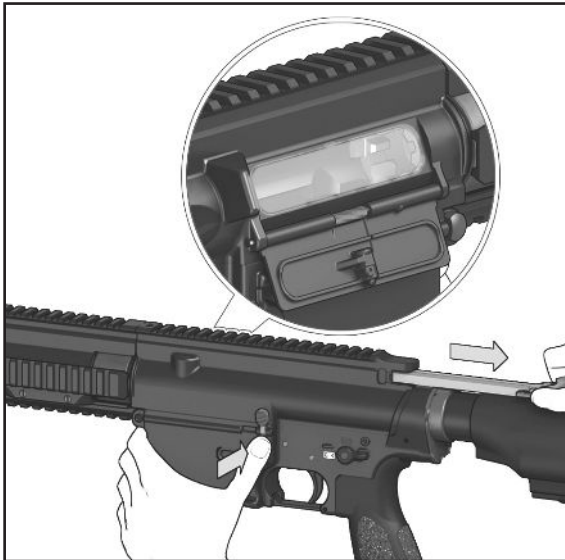

Fig. 31
2. Pull the charging handle rearward to open the bolt and lock it to the rear by pressing the bottom part of the bolt catch (Fig. 31).